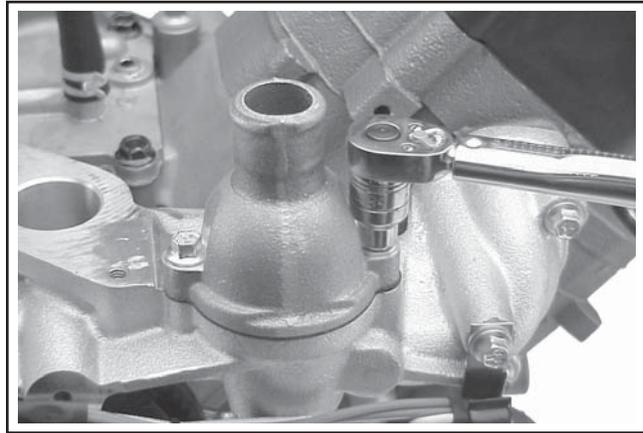

Figure 11-61. Torquing Thermostat Housing Screws.
8. Position the thermostat housing on the gasket and intake manifold. The notch in manifold, gasket and thermostat housing must all be aligned. Install and torque the two hex flange screws to **9.9 N·m (88 in. lb.)**. See Figure 11-61.